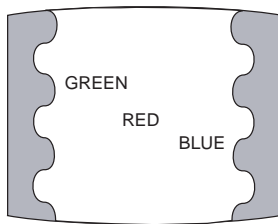

Fig.3-4
5. Move the deflection yoke backwards and adjust with the purity magnet so that the green is at the centre and it aligns symmetrically. [See Fig.3-4].